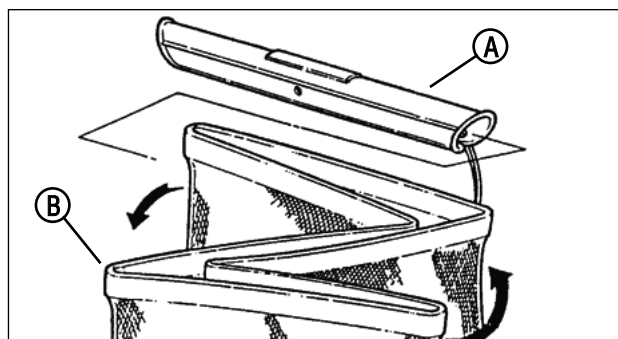

Figure 13: Removing the bag slider
2. Open the bag by pulling the bag slider (A, Figure 13) off of the Z-fold at the rear of the bag (B).